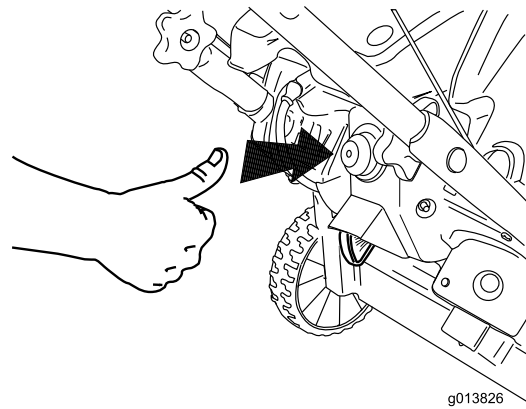

Figure 17
3. Firmly push in the primer 2 times with your thumb, holding the primer in for a second before releasing it each time (Figure 17).